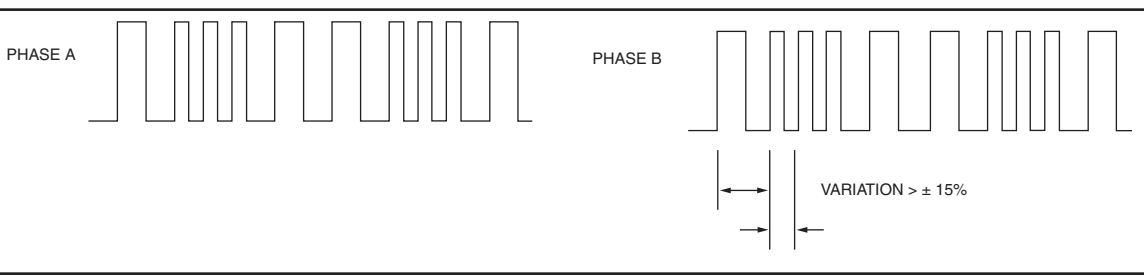

Figure 1
1. Remove an end sensor plate or the second sensor, and use the built-in gauge to check the location of the rotor (see Figure 1).
An oscilloscope can also be used to verify proper output of the AV5 encoder at the encoder connector itself and at the drive/controller cabinet. If the outputs show large variations in the signals at steady speed (jitter or “accordion effect”, figure 1), check rotor position. If the rotor position is correct, the motor or shaft may be highly magnetized. Replace any magnetized shafts with non-magnetic material (stainless/aluminum). Consider replacing the sensors with super-shielded models, option -004.